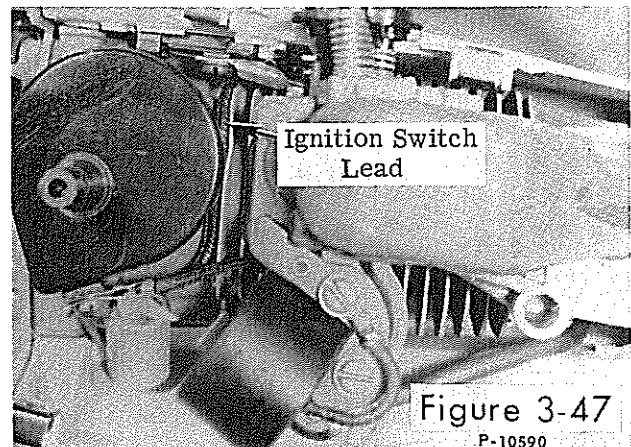

Figure 3-47
1. Place a drop of Loctite on the screw (2). Put the button (6) on top of the shroud with the OFF arrow pointing to the rear. Hold the base (5) against the bottom of the button and against the underside of the shroud. Add the arm (4) with its incurved side toward the base, the wire lead connector (3) and screw (2). Turn the wire lead connector so it comes off the contact arm in the direction of the carburetor (Figure 3-47). Tighten the screw enough to hold the wire lead connector in position but not so tight that the button cannot be pushed back and forth.